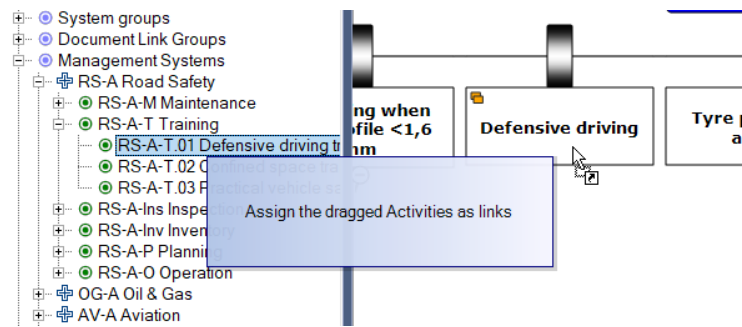

Figure 25 - Assign treeview values to the diagram
2. Move the mouse over to the diagram whilst holding the mouse button. You will see the mouse pointer indicate when it is valid to let go (Figure 25 - Assign treeview values to the diagram)